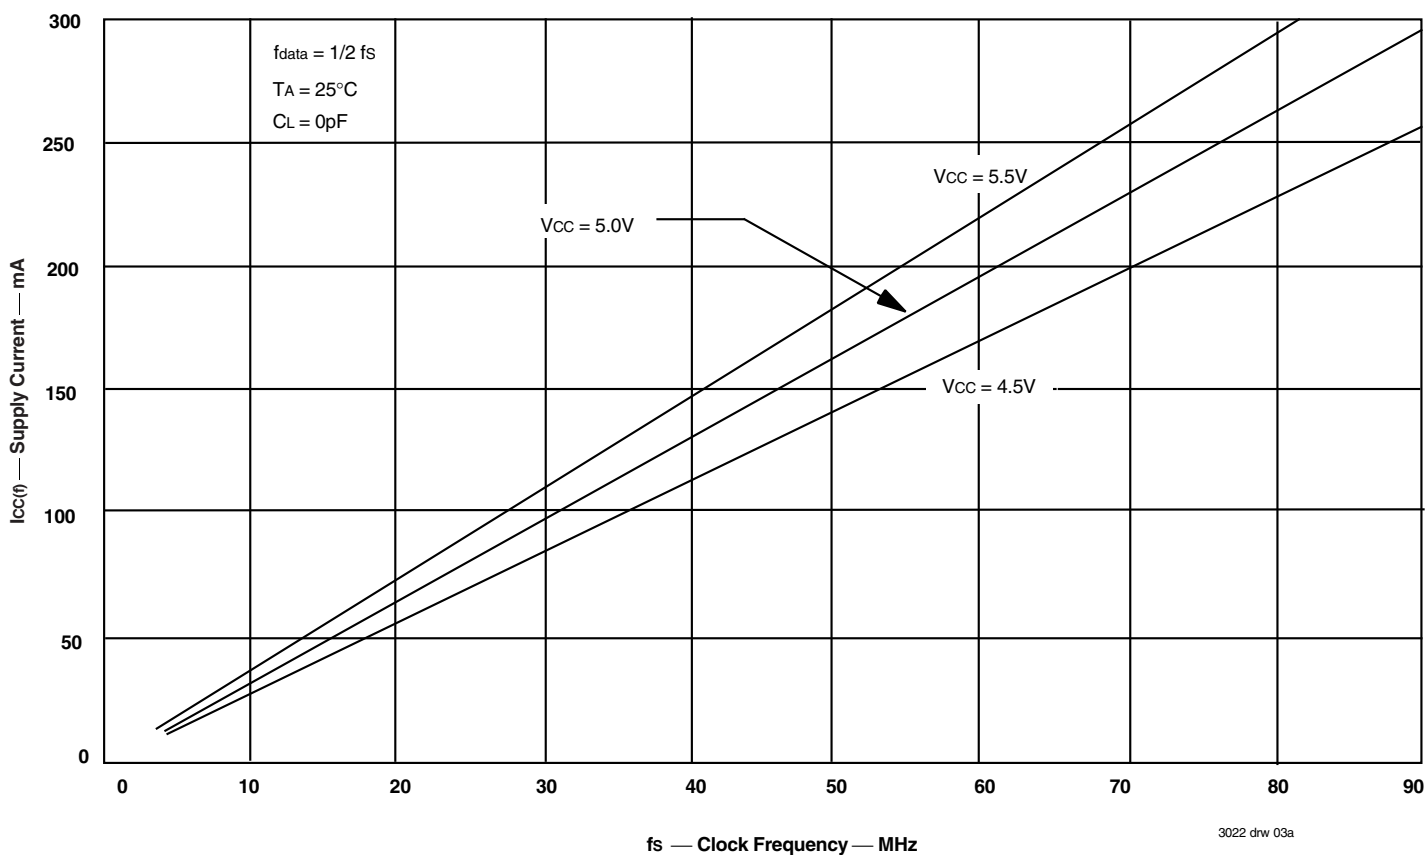

Figure 1. Typical Characteristics: Supply Current (I_{CC}) vs Clock Frequency (f_s)
- For additional I_{CC} information, see Figure 1, *Typical Characteristics: Supply Current (I_{CC}) vs. Clock Frequency (f_s)*.
The $I_{CC(f)}$ current for the graph in Figure 1 was taken while simultaneously reading and writing a FIFO on the IDT723622/723632/723642 with CLKA and CLKB set to f_s . All data inputs and data outputs change state during each clock cycle to consume the highest supply current. Data outputs were disconnected to normalize the graph to a zero capacitance load. Once the capacitance load per data-output channel and the number of these device's inputs driven by TTL HIGH levels are known, the power dissipation can be calculated with the equation below.
With $I_{CC(f)}$ taken from Figure 1, the maximum power dissipation (P_T) of these FIFOs may be calculated by: